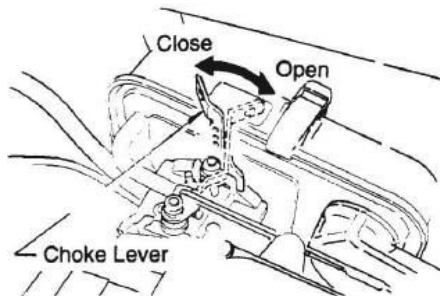

Fig 7
3. Close the choke lever (Fig 7) and move the throttle lever to the **Full Open** position. Turning the choke lever 90 degrees clockwise closes the choke. In cold weather, start the unit with choke fully closed. In warm weather or when the engine is warm, the unit can be started with choke halfway or completely open.
5. If engine fails to start, move the choke lever (Fig 7) to the half open position to avoid flooding.